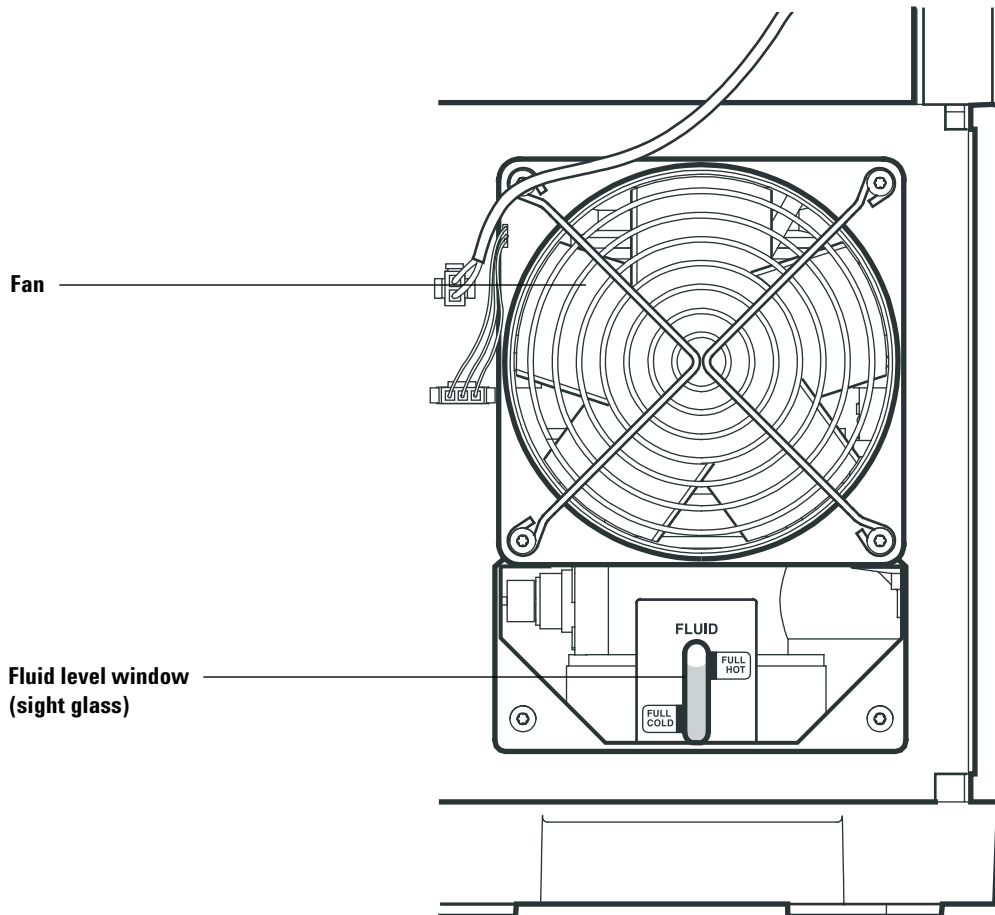

Figure 11 Diffusion pump
- 4 Check the diffusion pump fluid level. See Figure 11 on page 108.